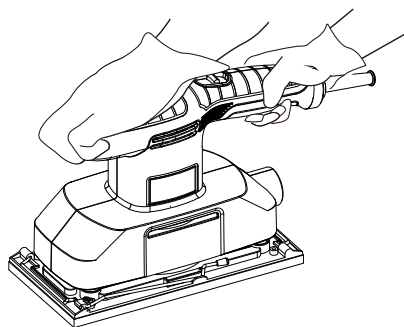

Fig. 18
**WARNING!** Sound level may exceed 80dB (A). Therefore always wear ear defenders when sanding.
- > Hold the product with one hand on the handle (5) and with the other hand on the gripping surface (2) (Fig. 18).